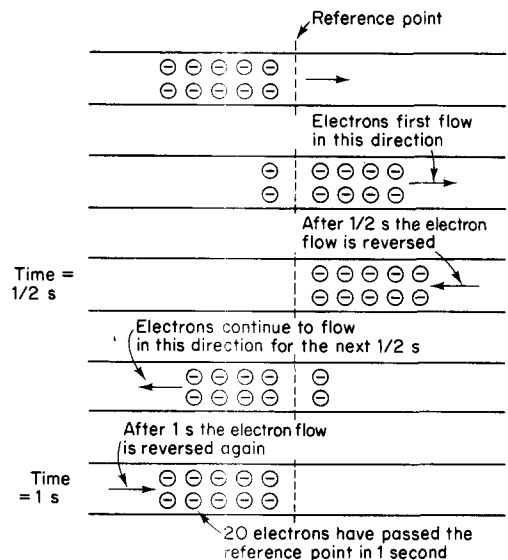

Fig. 2.97 A.C. current flow
**Alternating current (a.c.).** *Alternating current flows back and forwards in a conductor.* Suppose that 10 electrons move in one direction past a point in  $\frac{1}{2}$  second. When they reverse direction these 10 electrons will move past the same point in the next  $\frac{1}{2}$  second. Thus 20 electrons have passed the point in 1 second and the current is exactly the same as if 20 electrons moving in one direction only had passed the point in 1 second (Fig. 2.97).